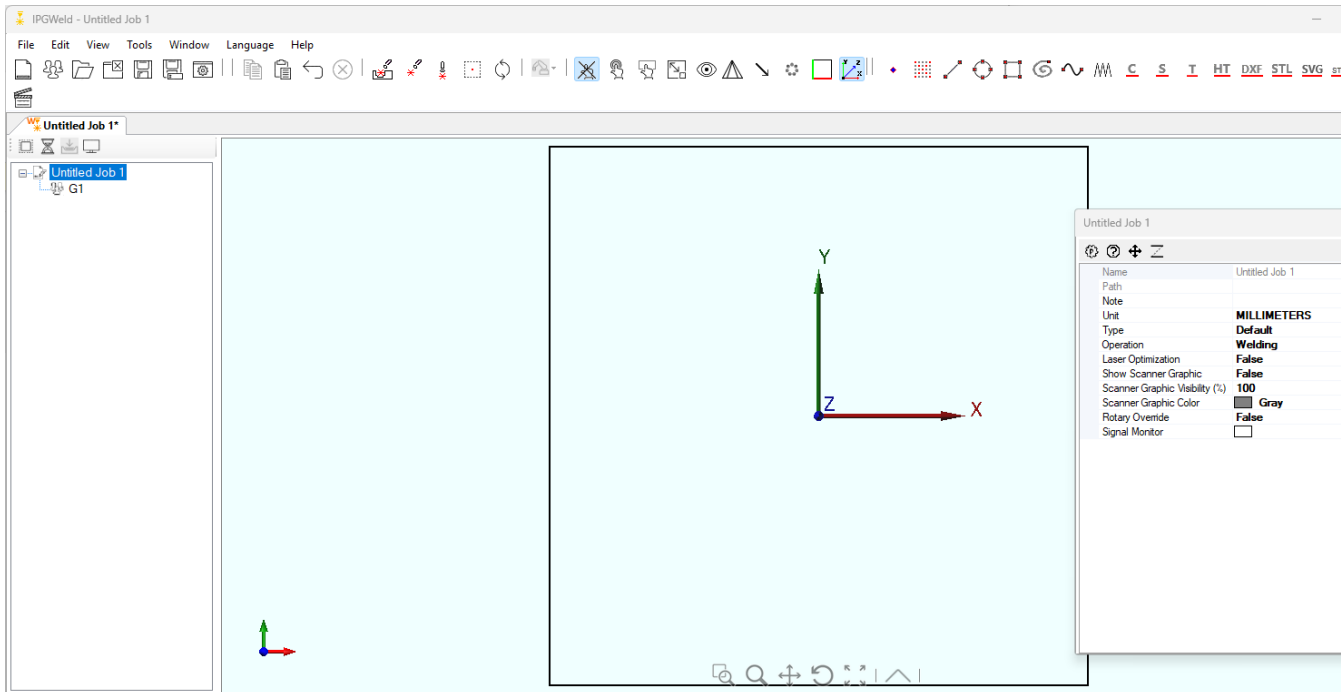

Figure 23: New Job Window
1. Select **File→New** or click the New icon in the Tool Bar to create a new Job file. An unsaved and untitled Job will appear as shown in Figure 23 (below).